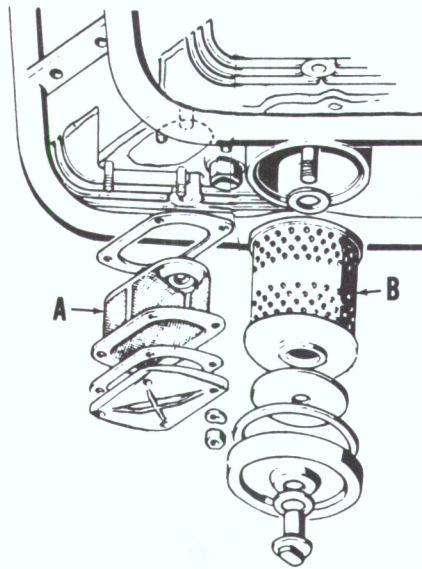

Fig. BE3-6—Renew paper oil filter (B) at every third oil change.
times. Crankcase capacity is approximately 2.6 qt. Oil should be drained and renewed every 1600 miles. Oil screen (A—Fig. BE3-6) should be removed and cleaned every oil change; oil filter (B) should be renewed every third oil change.